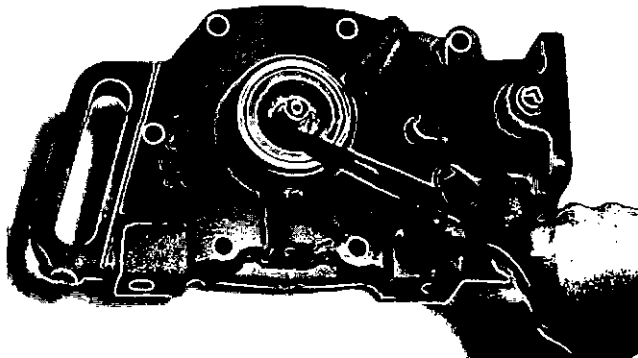

Fig. 8-36 (N10877). Remove The Seal From The Housing.
3. Remove the grease seal (4, Fig. 8-34) from the housing (13). Use a pry bar to remove the seal, Fig. 8-36. Do not damage the bore.